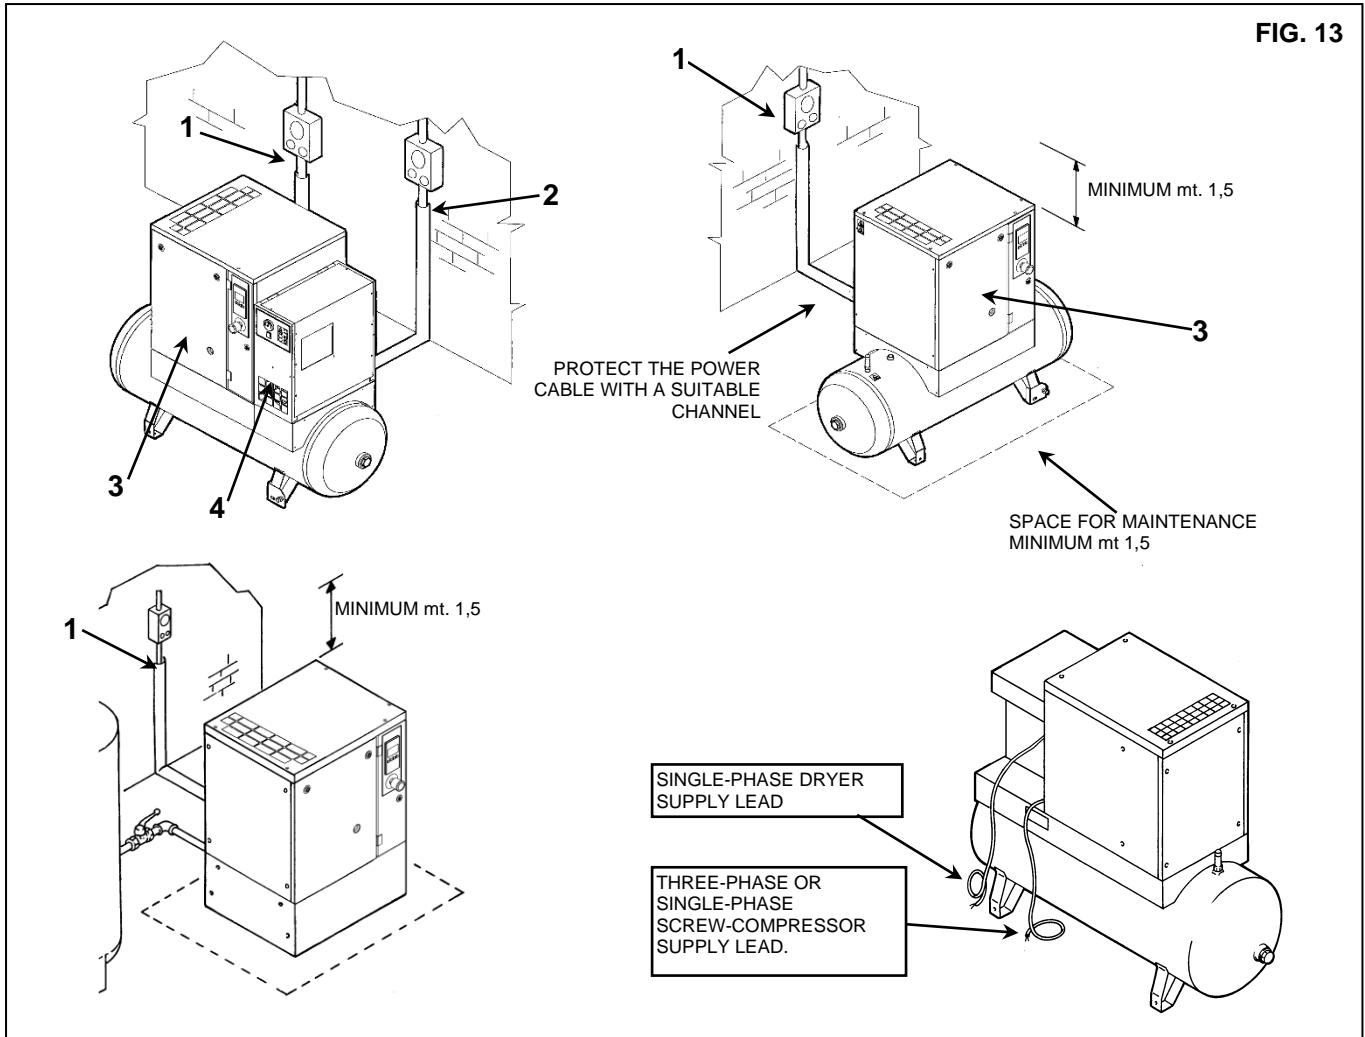

FIG. 13
- Ensure that there is sufficient space around the machine to allow maintenance (see FIG. 13).